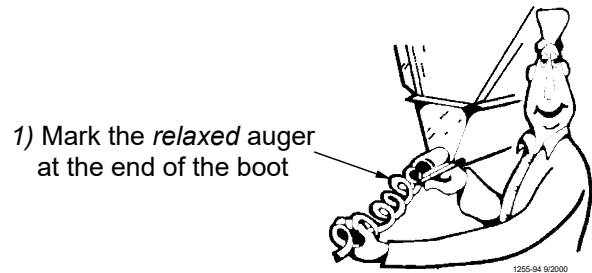

Figure 50. Measure the Auger from the relaxed position
10. Pull the auger at the boot end until it begins stretching. Then let it relax. In the *relaxed* position, mark the auger at the end of the boot. See Figure 50.